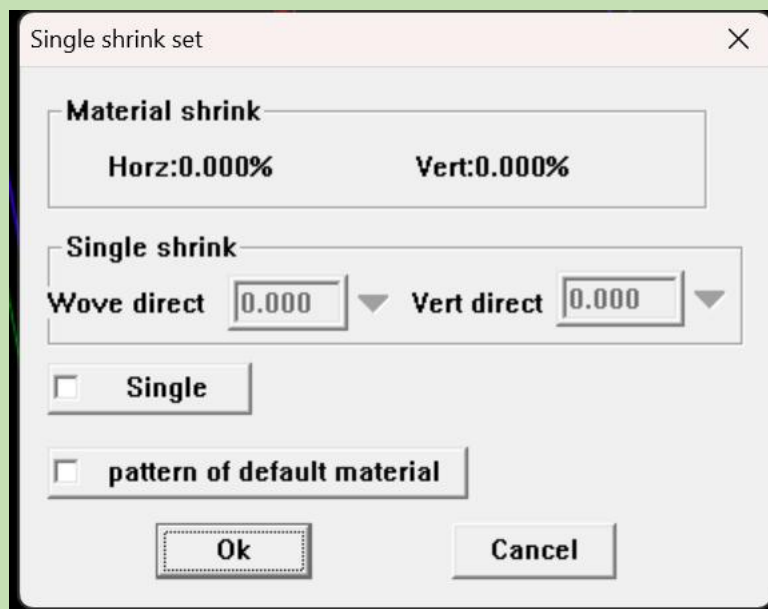

Figure10-4
(1) Shrink single: Set the shrinkage rate for this pattern piece as shown in Figure 10-4. If the option to apply to all pattern pieces is selected, all pattern pieces will be set to the same shrinkage rate.